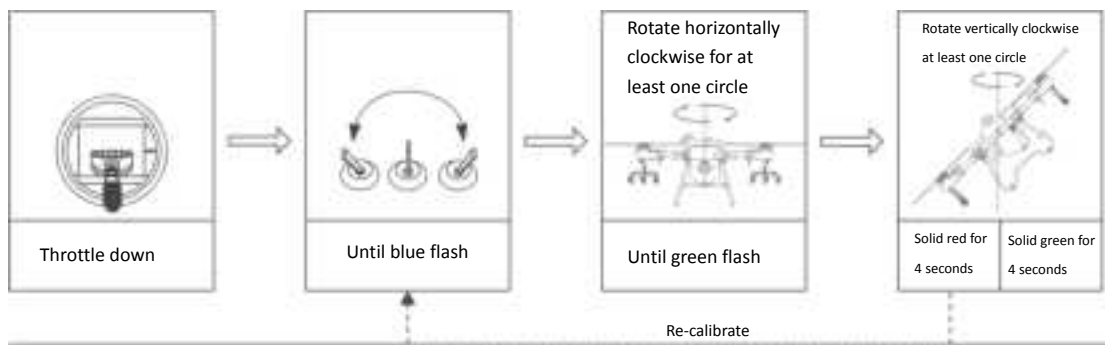

Figure 1-4-7 Compass Calibration
Step 5: Calibration fails if the status indicator shows solid red for 4s. Repeat Step 2-4 until the operation succeeds. See Figure 1-4-7.